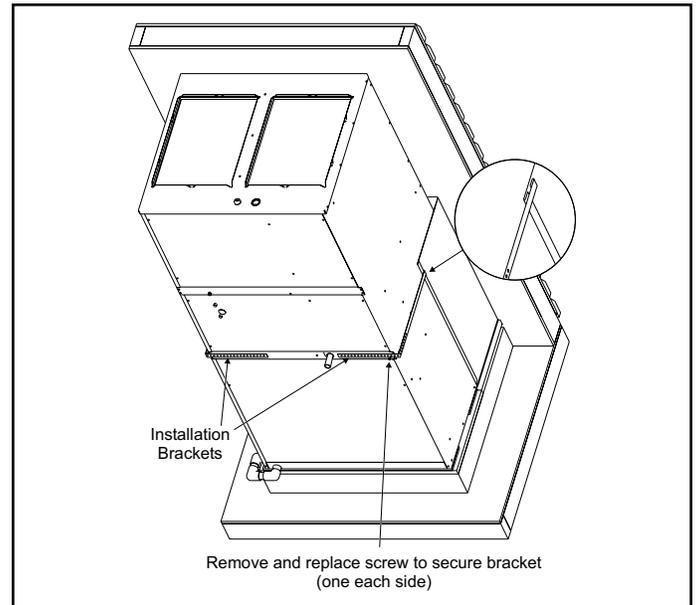

Figure 5. Securing Unit
- Use the two installation brackets to secure the unit to the wall sleeve (see Figure 5). The units are shipped with the brackets placed loose on the unit top panel, beneath packaging. Hook each bracket into the front edge of the wall sleeve side. Position the bracket so it can be bent around the front corner of the unit. Remove one of the two screws in that position on the unit. Line up one of the holes in the installation bracket with the screw hole and attach the bracket to the unit with that screw. Make sure to fasten tight enough that the seal is maintained. Trim off excess bracket if applicable.